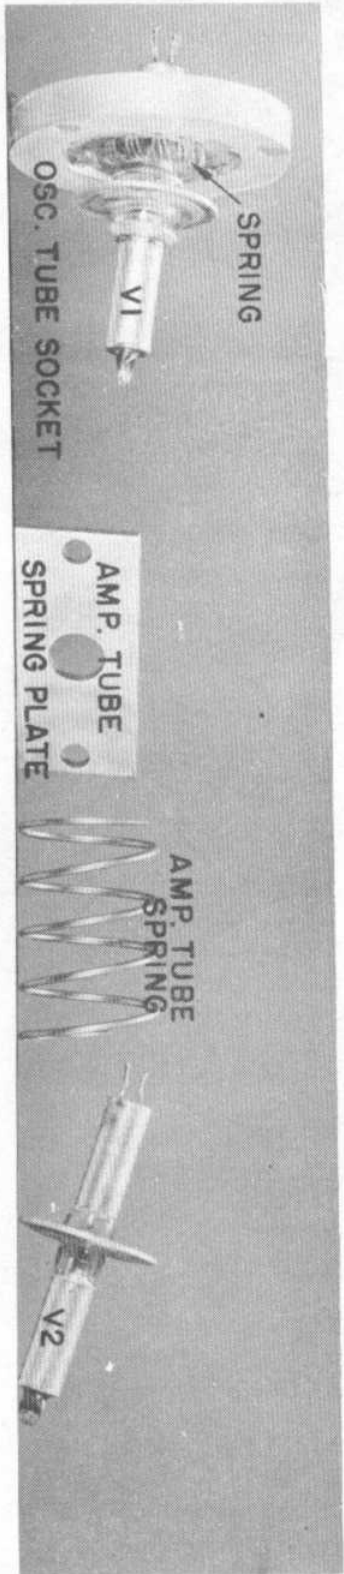

Fig. 6. Oscillator and Amplifier Tube Socket Parts
2. Slip the oscillator tube socket, with the spring down, over the lead end of the tube (fig. 6).
2. Slide spring and spring plate over the lead end of the tube (fig. 6).